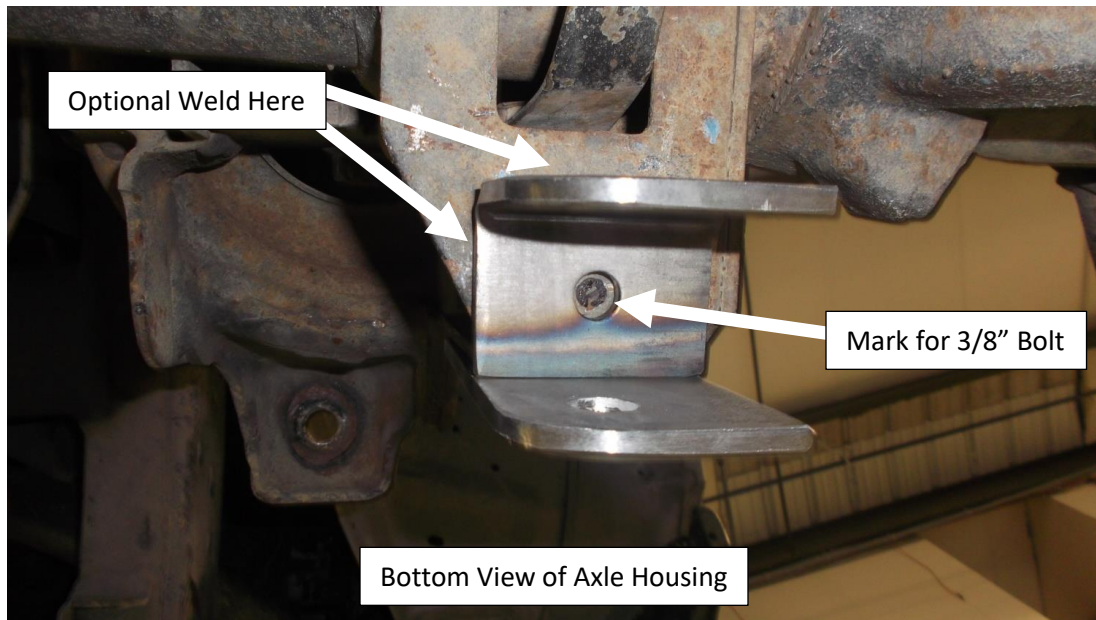

Figure 8. Location to Drill 3/8” Hole or Weld Area for 8568-11 Bracket
11. The bracket can be welded or bolted on. If welding the bracket on, take note of the areas that need to be cleaned up for welding. If bolting the bracket on, mark the location of the bottom 3/8” bolt. **See Figure 8.**